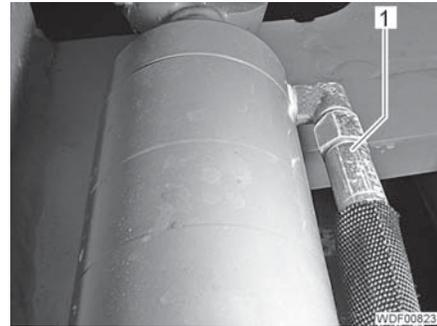

Fig. 134 Steering cylinder, rod end
- Screw the hydraulic line (Fig. 134,1) onto the connection on the steering cylinder and tighten.